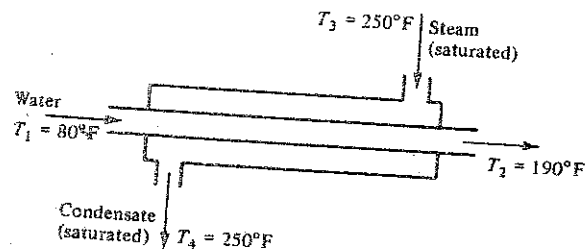

FIGURE 2
4. Consider the heat exchanger shown in figure 2. Identify: